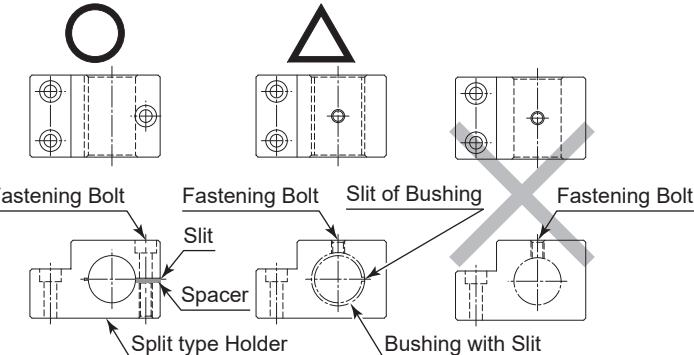

Fig. 13 Fig. 14 Fig. 15
- When installing an Air Motor Spindle to the holder, recommended installation method is shown Fig 13. Refer to " ③ How to fabricate the Split Type Holder ". If this is not possible, install as shown in Fig. 14.